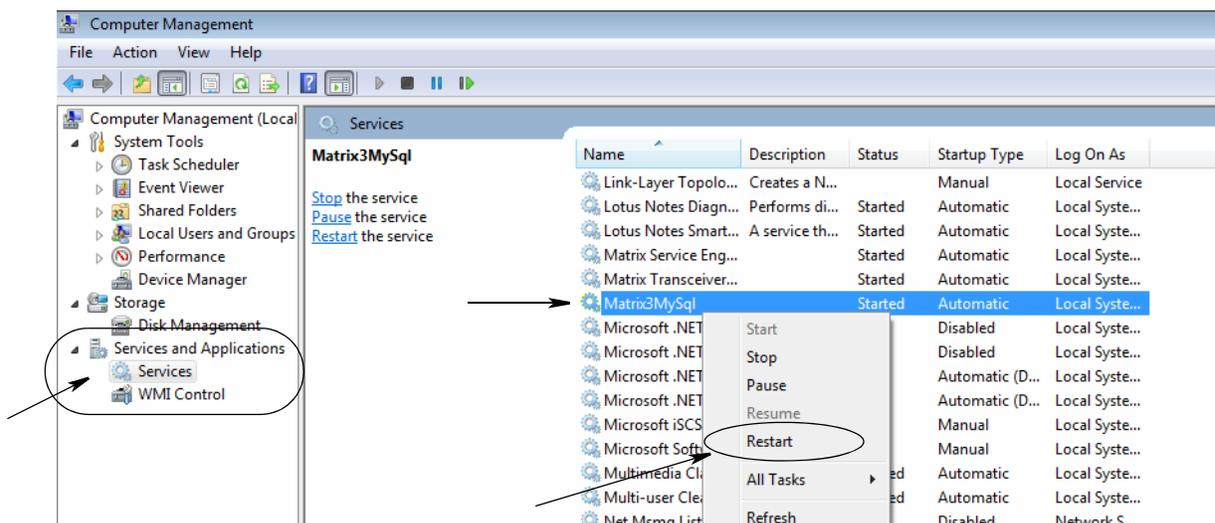

FIG. 210
- b. On the left hand side, expand Services Applications. Click on Services. In the list to the right locate Matrix3MySql. Right click on it. Select the restart option from the pop up menu (Fig. 210).
- c. On the left hand side, expand Services and Applications. Click on Services. In the list to the right locate Matrix3MySQL. Right click on it. Select the restart option from the pop up menu (FIG. 210).